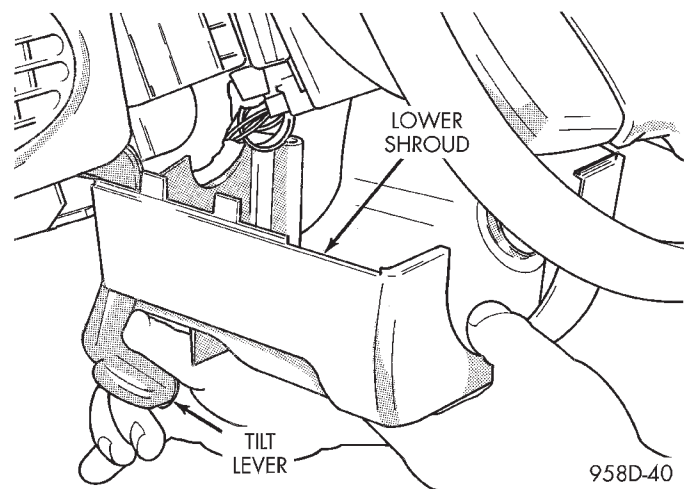

Fig. 60 Lower Shroud Removal
(9) Hold tilt wheel lever down and slide lower shroud forward to remove it from column (Fig. 60).